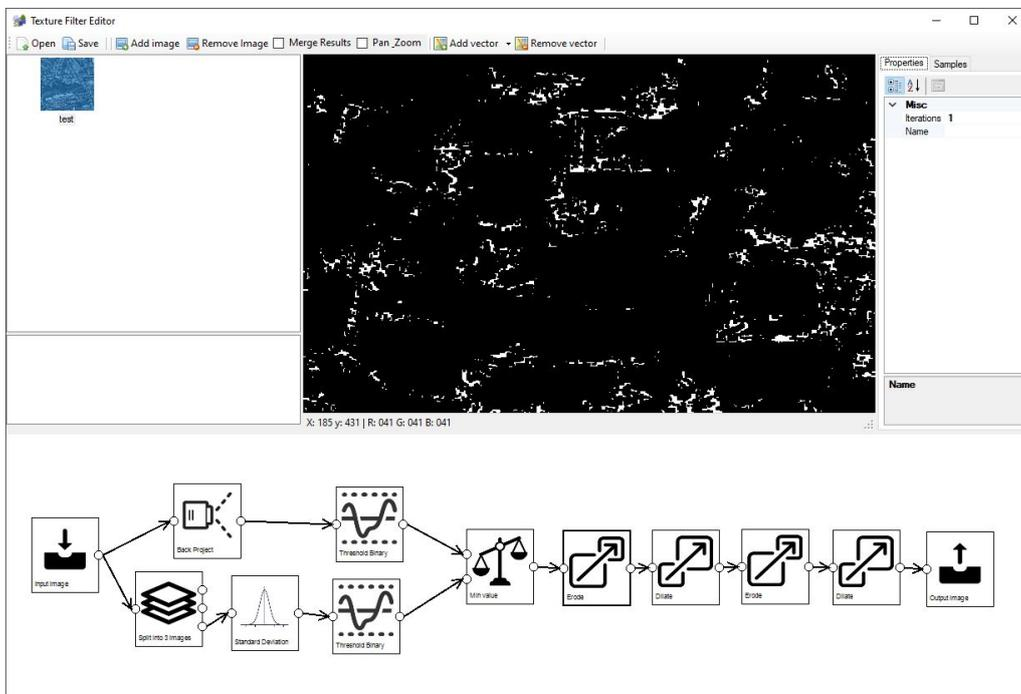

Figure 6.21: Eroding to remove noise
8. Erode step with 1 iteration to get rid of small noise, see Figure 6.21.